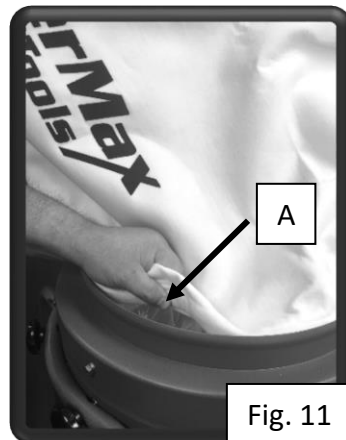

Fig. 11
- 7) Compress snap ring of the bottom of the filter bag and fit inside the lip (A), snug, as shown in fig. 11